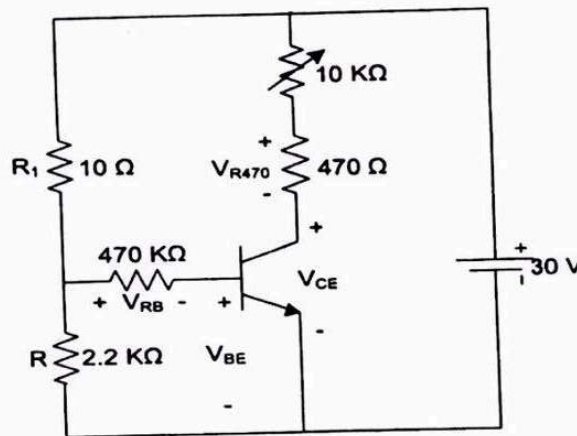

Figure 5.4: Experimental Circuit.
1. Connect the circuit as shown in the figure 5.4. Use 2.2 K Ω as R.